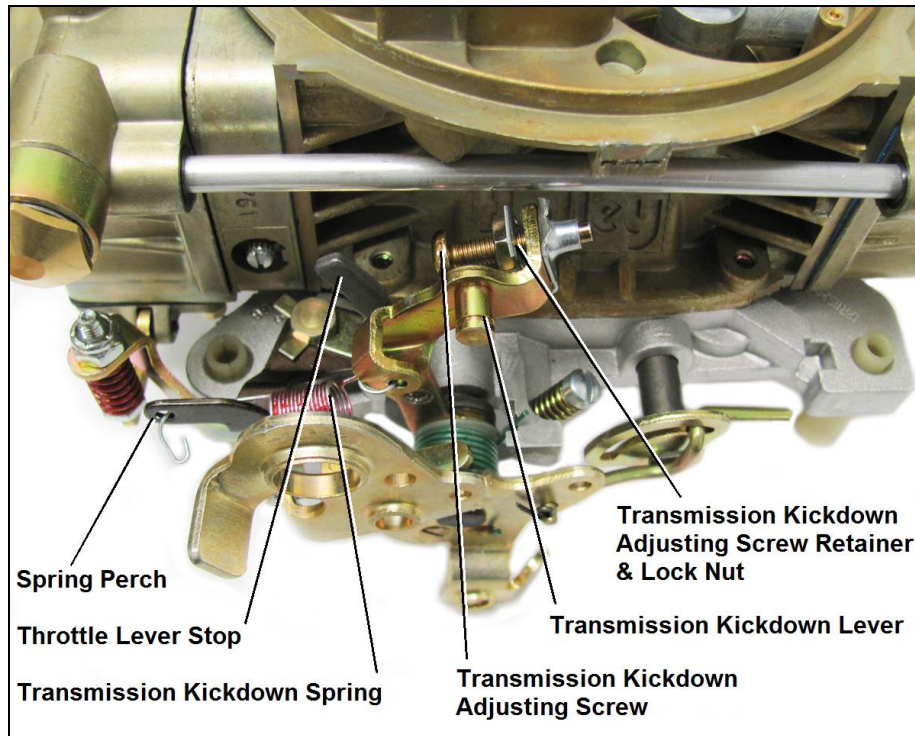

Figure 5—Ford applications
2. Insert the transmission kickdown screw with the retaining clip and lock nut on the transmission kickdown lever (**Figure 5**). This assembly must be installed according to the detailed drawing (**Figure 5**).
4. Install the transmission kickdown spring between the transmission kickdown lever and spring perch (**Figure 5**).